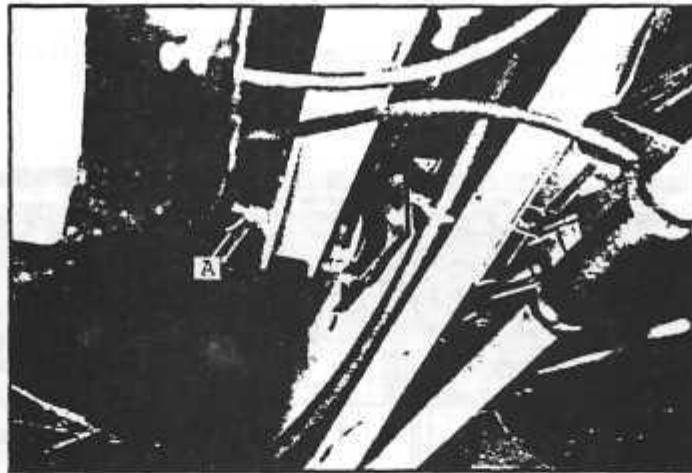

FIGURE 4
2. Loosen trailing arm pivot bolt "A". FIGURE 4.
4. Torque trailing arm pivot bolt "A" to 75 NM (55 ft. lbs.). (See Fig. 4)
Page 4:5-25 Figure 4:5-52 Clutch C-1
Page 4:5-37 Figure 4:5-78
Page 4:5-19 Figure 4:5-42 Transmission End Play Adjustment